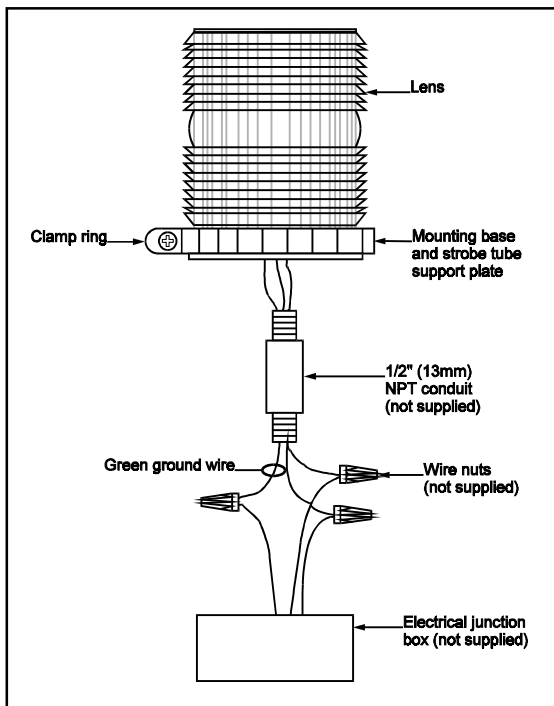

Figure 1. Conduit Mounting
1. Refer to Figure 1. The signals require 1/2" (13 mm) NPT conduit (not supplied). Route the 18" (457 mm) wire leads coming from the bottom of the signal mounting base through the conduit. Thread the conduit into the signal mounting base.